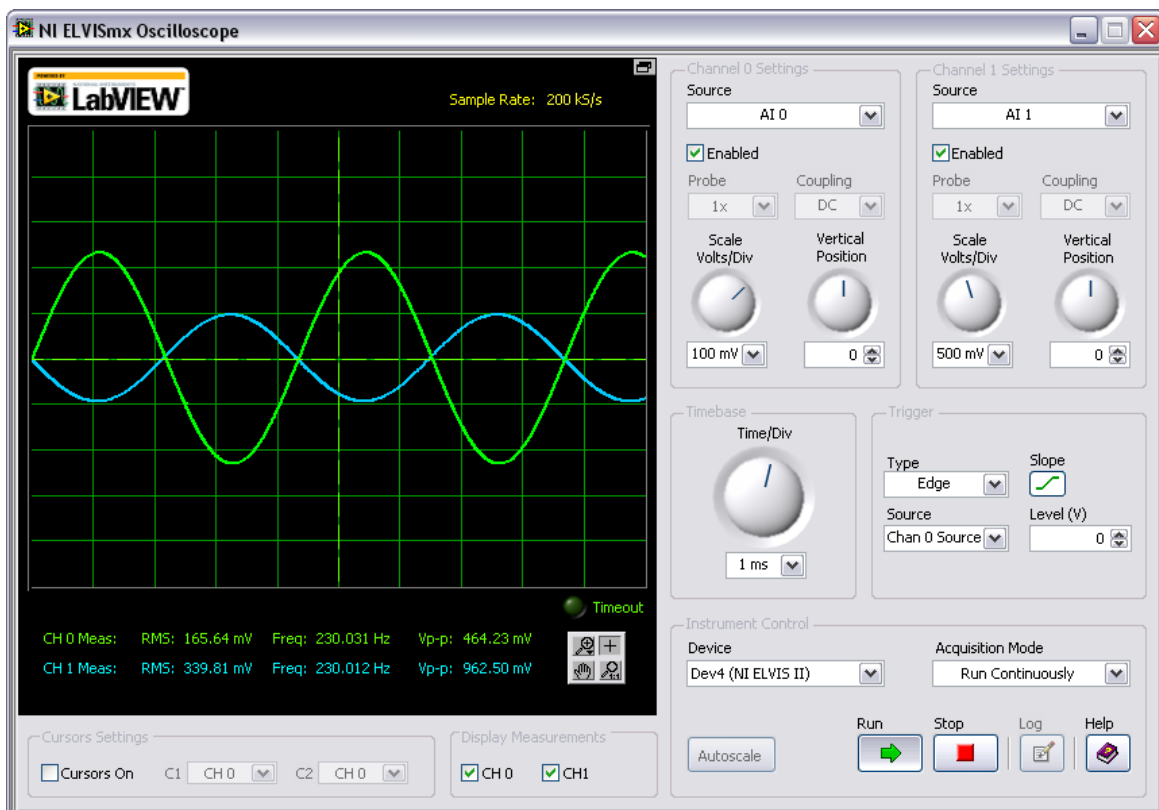

Figure E4-1. Transient Verification of Real-World Circuitry
7. Verify your circuit operates as indicated in Figure E4-1. Note the configuration of the NI ELVISmx Oscilloscope.